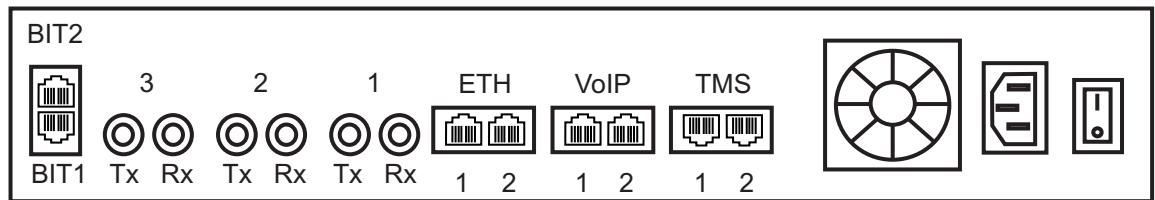

Figure 2.9 DS3 Interface to the PSTN
A TMP6400 with 3 sets of BNC connectors enables the connection to DS3 lines. See figure 2.9 on page 20
1. Start with the Dual BNC port pair #1 (right-most) as shown in figure 2.9 on page 20. Connect one pair of BNC cables between this port and the DS3 line.